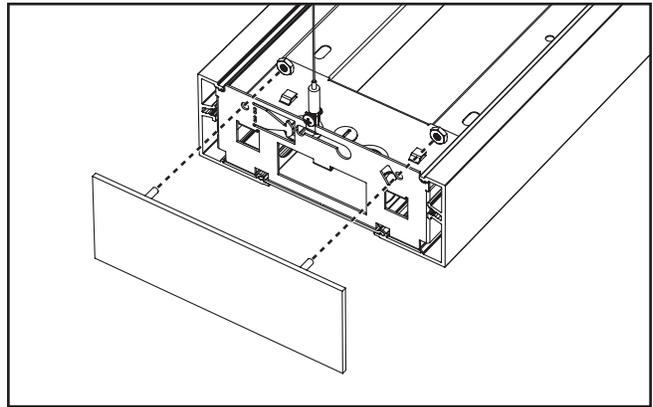

Figure 10.
- End Plate: Slide into end of fixture and secure with two 10-32 nuts. (Figure 10.)